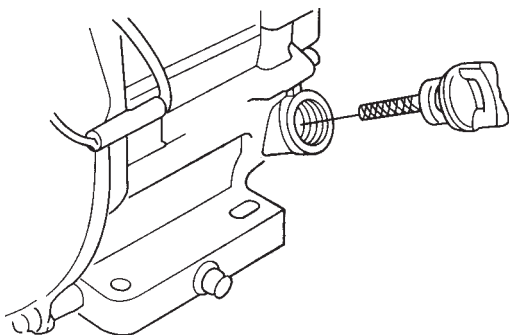

Figure 16. Engine Oil Dipstick (Removal)
2. Remove the filler dipstick from the engine oil filler hole (Figure 16) and wipe clean.